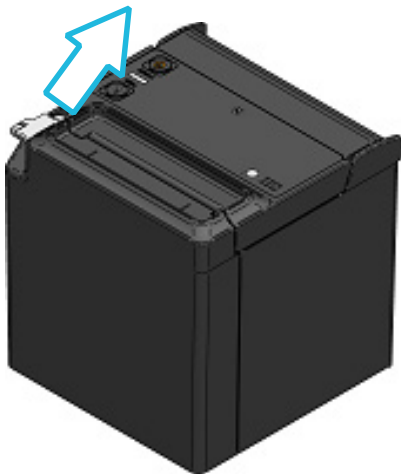

Figure 8-1 Release Lever (Top Eject)
- (1) Operate the release lever in the direction of the arrow shown in Figure 8-1 and Figure 8-2 to open the paper cover.